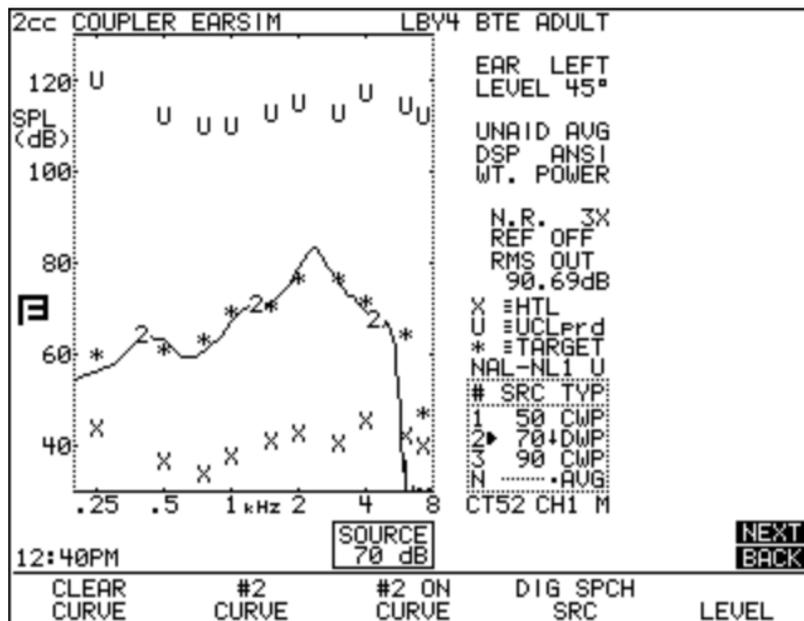

Figure 6: Measurements in the Coupler EarSim screen.
13. Press [NEXT] to enter the Coupler EarSim screen. In this screen, instead of converting the real-ear target into a coupler target, the actual real-ear target is displayed, and the coupler measurements are converted into “simulated real-ear.” The operation of this screen is exactly the same as the Coupler Target screen. *See Figure 6.* Use the local menu to change the Display between Gain and SPL in order to display insertion gain targets or Real-ear SPL targets.